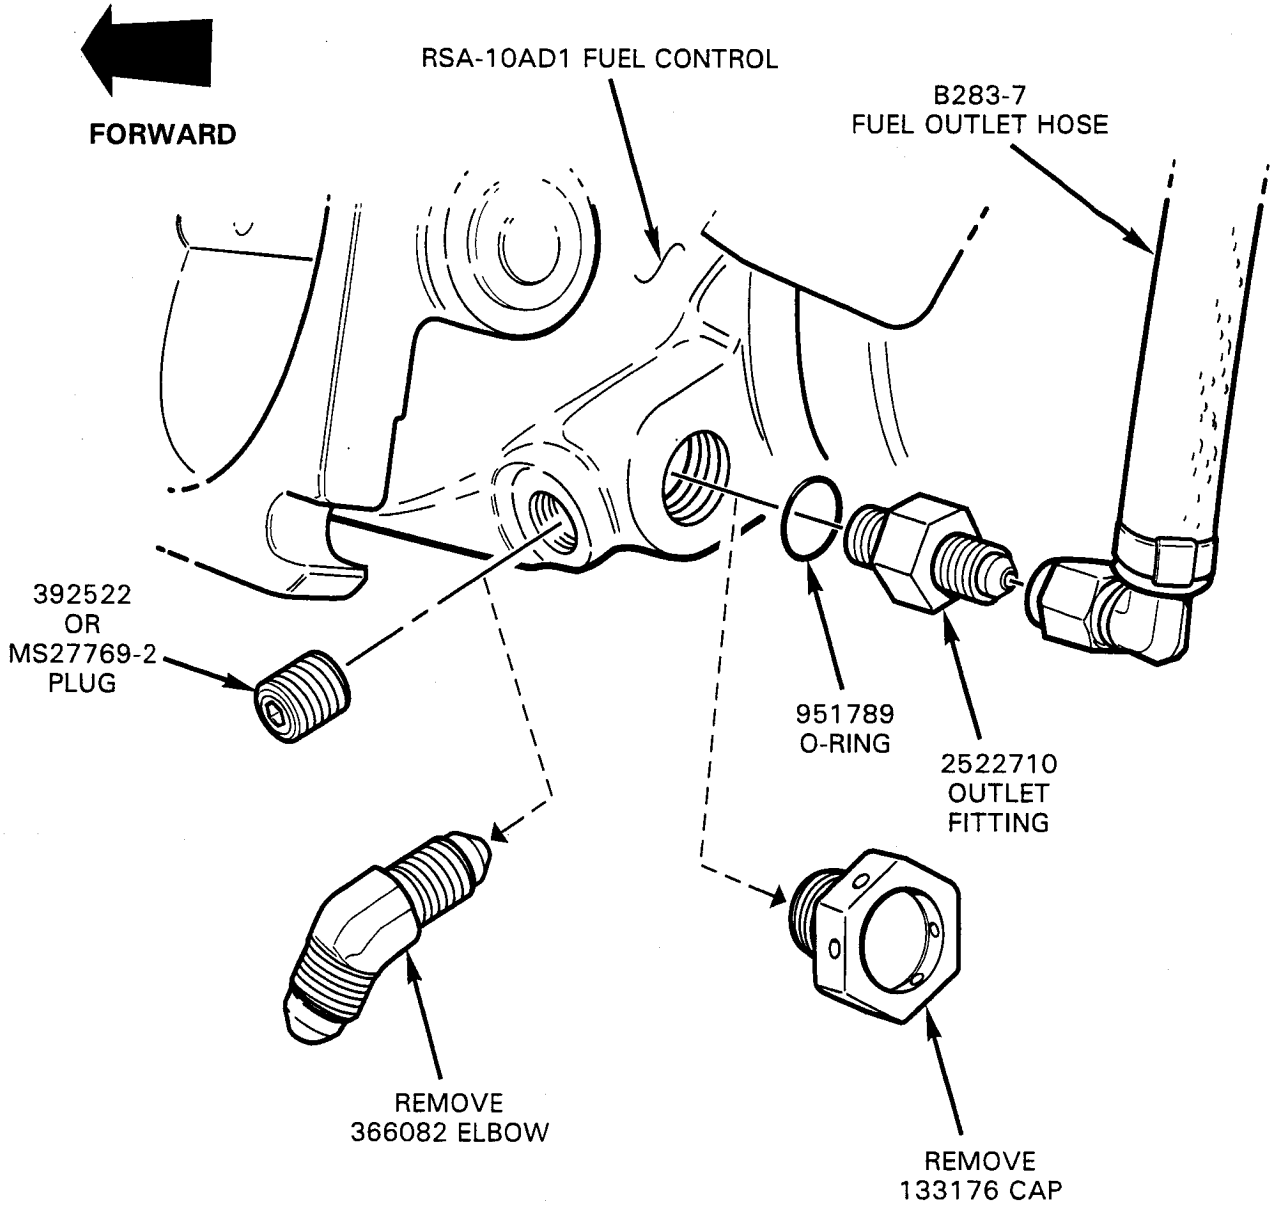

FIGURE 3
- b. Refer to Figure 3. Remove 366082 elbow and adjacent 133176 cap. Lubricate all but first two threads of 392522 or MS27769-2 plug using ample, but not excessive, B270-6 thread sealant.